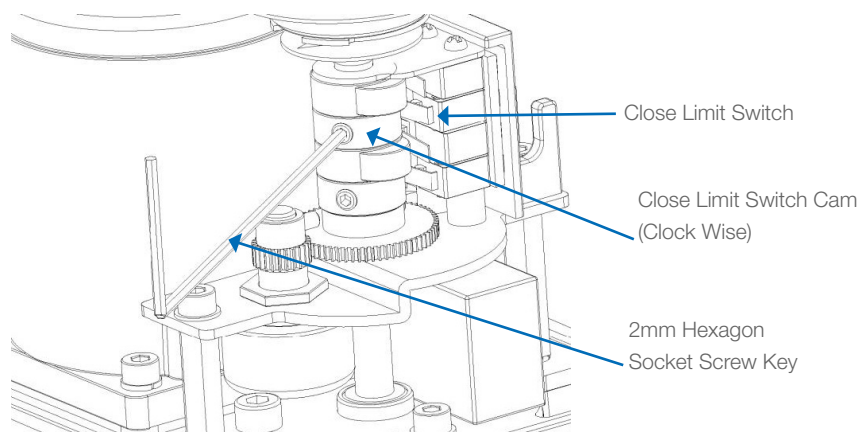

FIGURE 1: CLOSE CAM SETTING
- ☐ Rotate the CLOSE cam towards limit switch lever until the switch 'clicks' (see Figure 1 below)